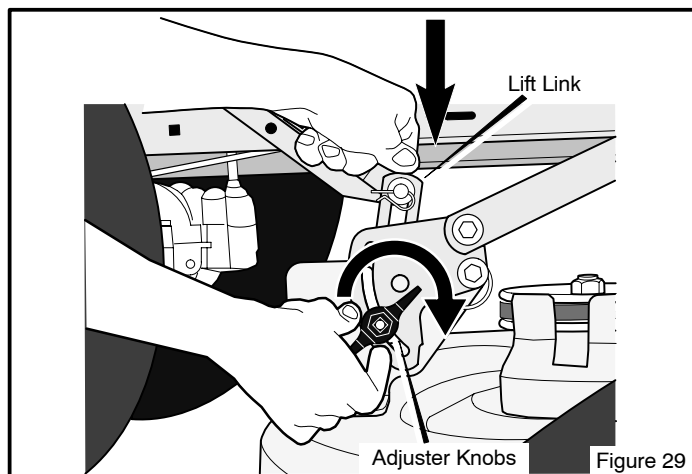

Figure 29
6. Loosen the left and right **adjuster knobs** (Figure 29). Push down on each side of the mower housing. Make sure both sides of the mower housing are setting on a flat surface. Also, make sure the lift links are loose and can easily move up or down.
7. Push down on the **lift links** and tighten the left and right **adjuster knobs** (Figure 29). Make sure the **adjuster knobs** are tight. If necessary, use a wrench to tighten the **adjuster knobs**. For plastic **adjuster knobs**, tighten to a torque of 7 foot pounds (9,5 N-m). For metal **adjuster knobs**, tighten to a torque of 10 foot pounds (13,5 N-m).